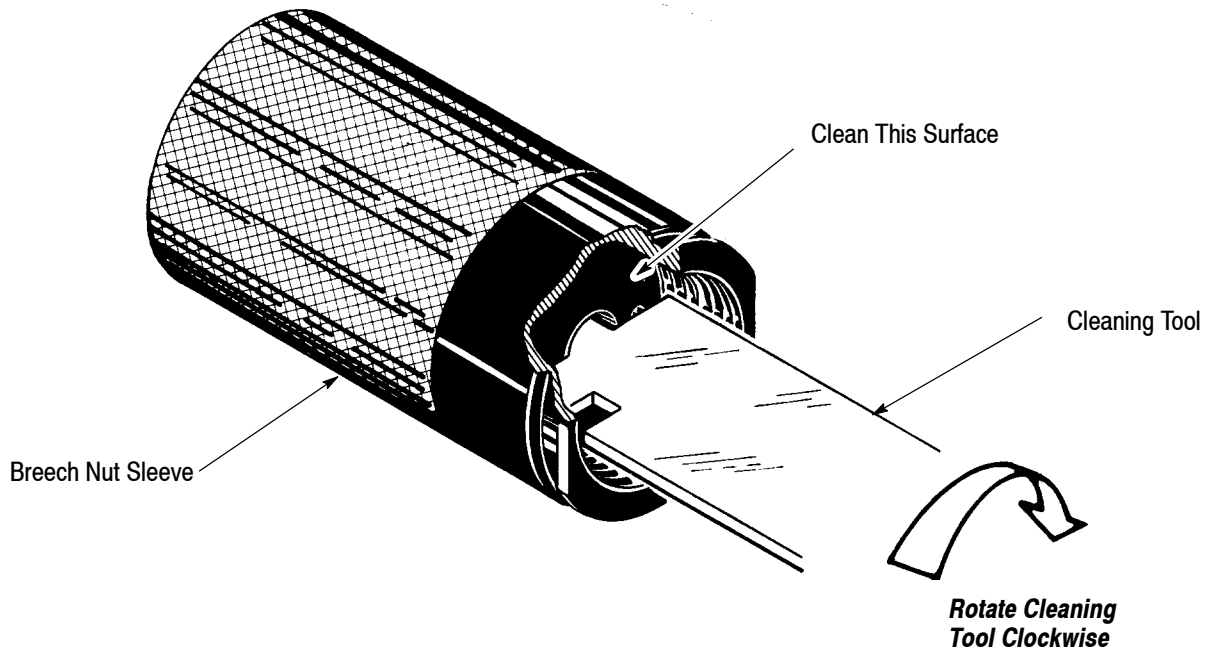

Figure 41
- c. Insert the cleaning tool into the back of the breech nut sleeve and rotate tool clockwise to clean piercer pin guide and gas release facing surface, as shown in Figure 41.